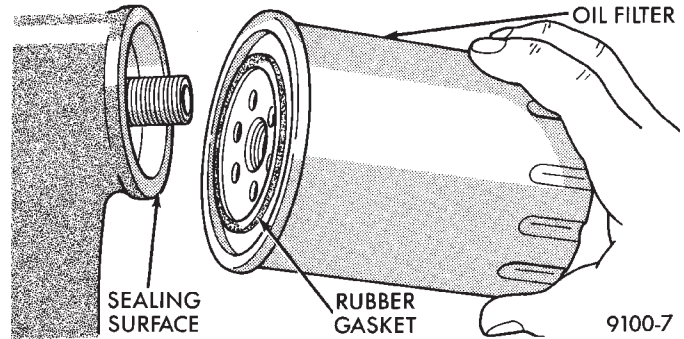

Fig. 9 Oil Filter Sealing Surface—Typical
(4) When filter separates from adapter nipple, tip gasket end upward to minimize oil spill. Remove filter from vehicle.
(5) With a wiping cloth, clean the gasket sealing surface (Fig. 9) of oil and grime.
(1) Lightly lubricate oil filter gasket with engine oil or chassis grease.
(2) Thread filter onto adapter nipple. When gasket makes contact with sealing surface, (Fig. 9) hand tighten filter one full turn, do not over tighten.
(3) Add oil, verify crankcase oil level, and start engine. Inspect for oil leaks.